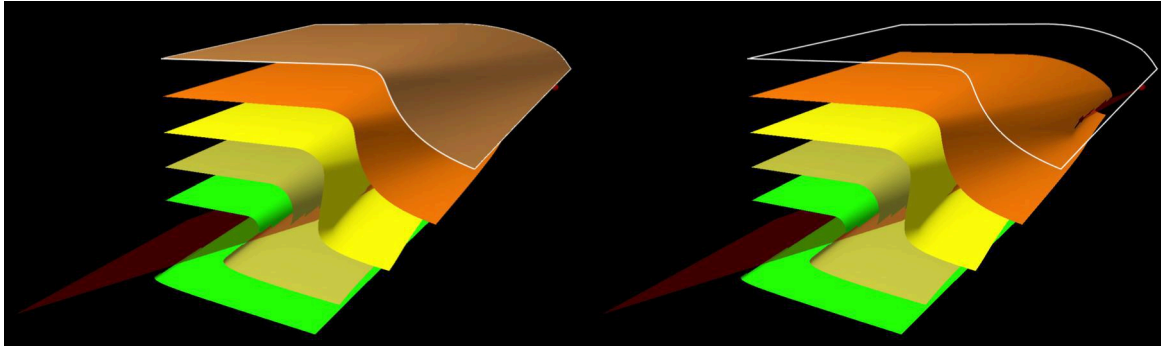

Figure 13. Selecting and toggling off uppermost bed
3. Draw (*Plot -> Beds -> Draw* or keyboard combination ⌘D), or not (*Plot -> Beds -> Don't draw* or keyboard combination ⇧⌘D) the bed. Figure 13 (right) shows the model with the selected bed not displayed.